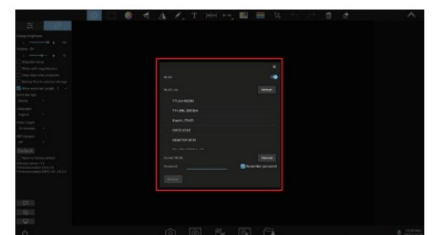

Figure 3
4. Select a local area network (Figure 3), enter password and click “Connect” button.